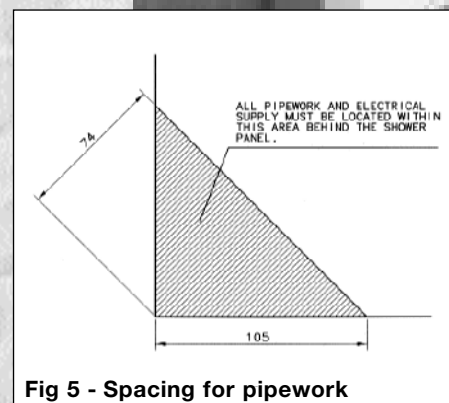

Fig 5 - Spacing for pipework
10. All supply pipework should be brought down the wall or exit the wall within the space detailed in fig 5.